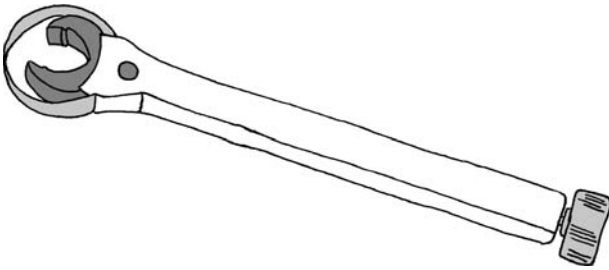

Figure D.10 Jar opener that may be used for following focus or zooming.
- Clamp-on jar opener (see Figure D.10)